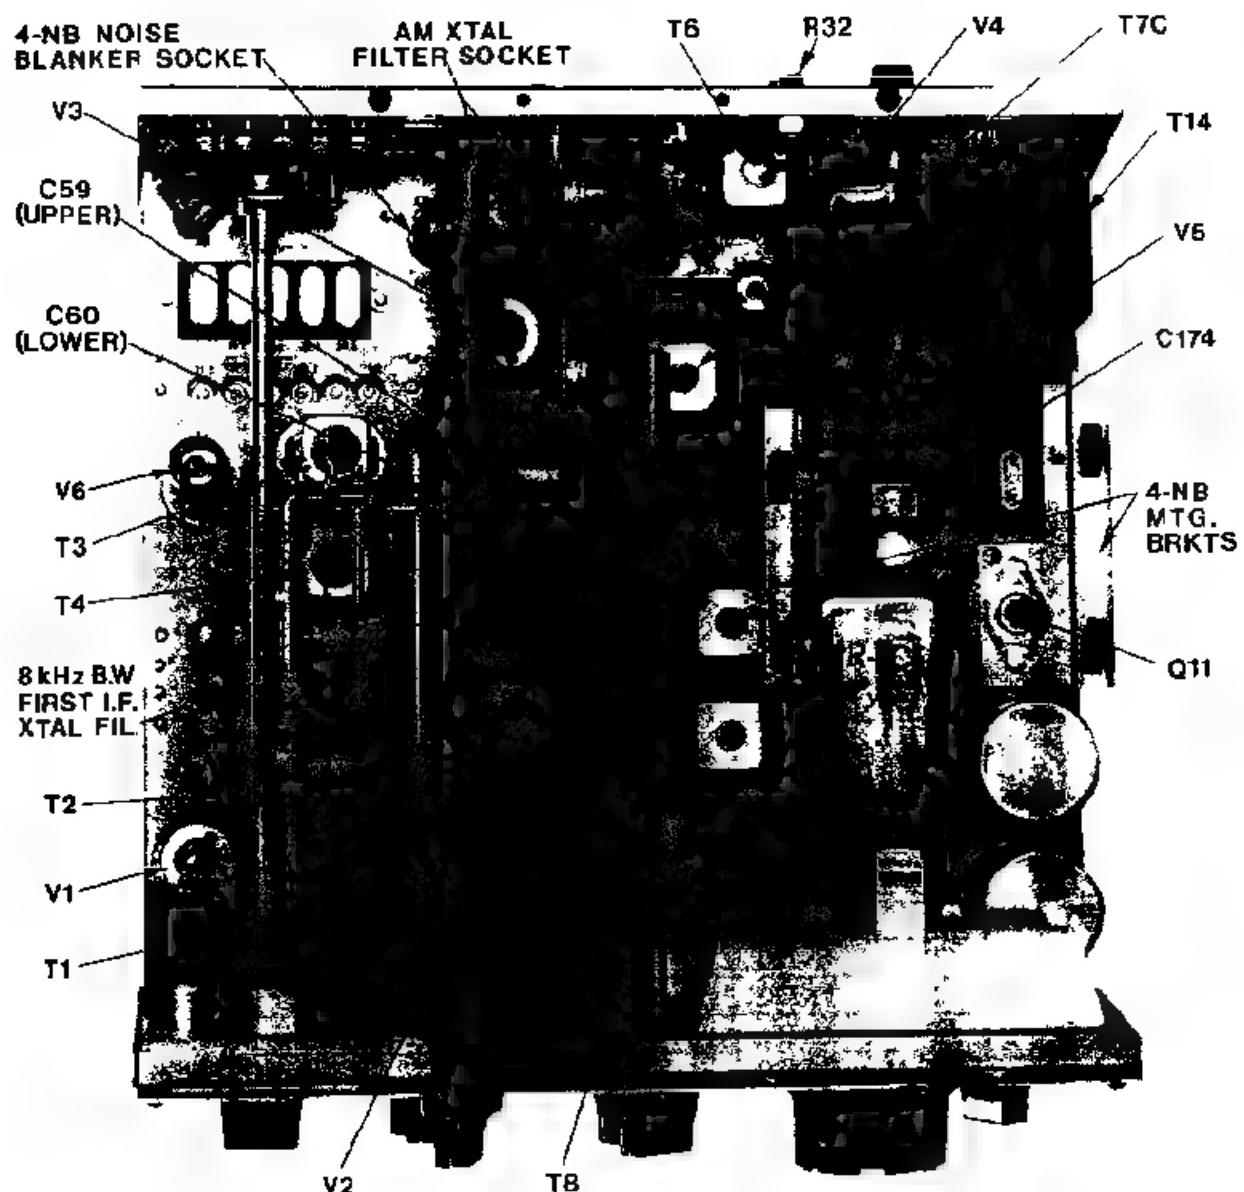

Figure 5-1. Alignment Locations, Top View
- b Refer to figure 5.1 and determine the location of C174.